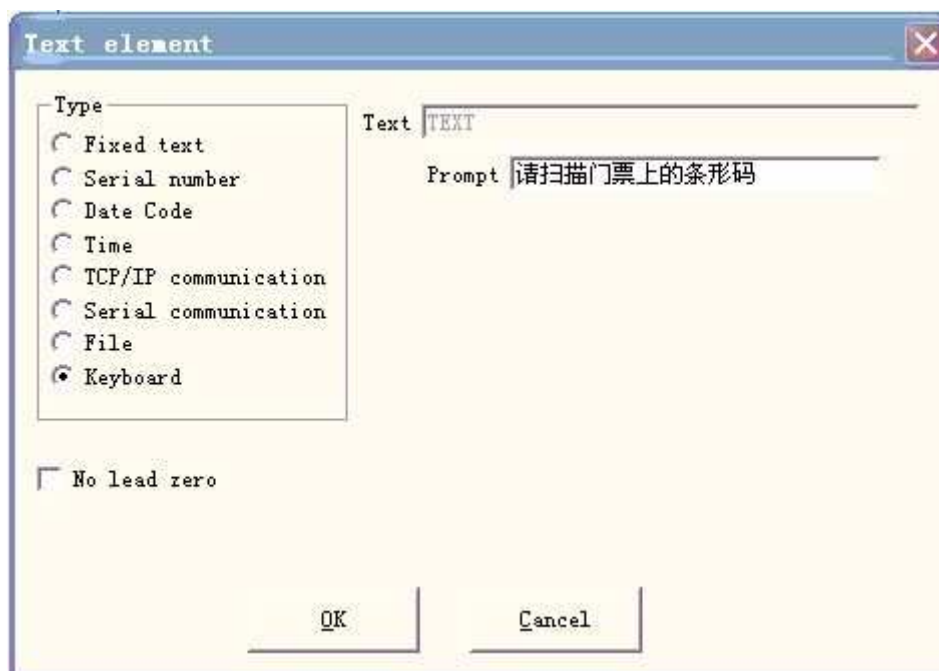

Figure 4-50-a Keyboard
establish text → enable variable text → add → keyboard, such as the figure 4-50-a:
2. Input prompting message, click “OK”, then we can obtain the figure 4-50-b.